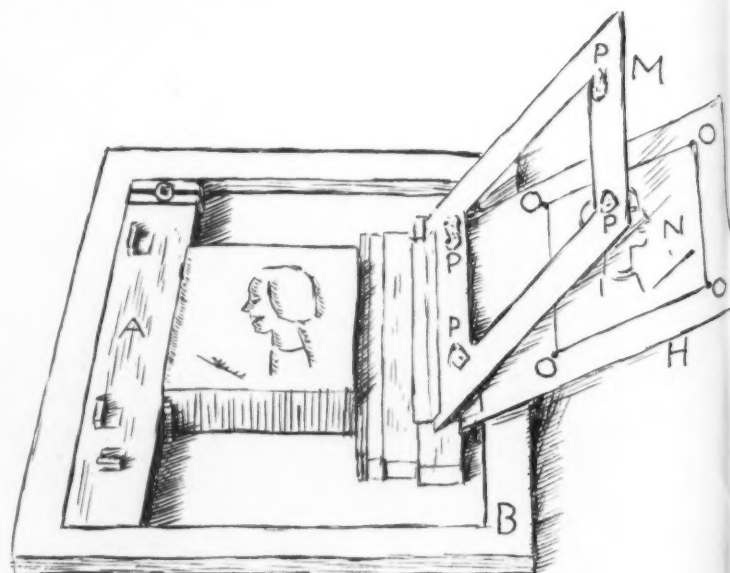

Fig. 4
To do really good work, what the printers call "make-ready" is used. The usual method of make-ready on a Washington Hand Press is, to my mind, slow and cumbersome. My method is to fasten a piece of cardboard by a hinge of gummed paper, as shown at H in fig. 4. (Disregard the *frisket* M for the moment—this is a later addition.) On this cardboard I take an impression of the block in position of register, by swinging it down over the inked block. We see the imprint at N. With a needle I prick through the cardboard, as at O, O, O, and O to give me the position on the other side of the cardboard. For make-ready, I use a thin manifold paper. A print on this paper is affixed lightly with paste, face down, on the other side of the cardboard H, using the holes made by the needle as guides to the correct position.
H. Do not use much paste and wherever possible place it where there is a white space in your design, for the paste itself has thickness. Continue taking trial proofs and pasting paper on the thin parts on the back until the prints are satisfactory. A sheet covering the whole is good to keep your make-ready in place. When one wishes to be especially careful, what is called a *frisket*, M, fig. 4, will prevent slurring caused by the paper touching the block before the printing pressure. For this, a piece of cardboard is hinged similarly to the sheet of make-ready. An